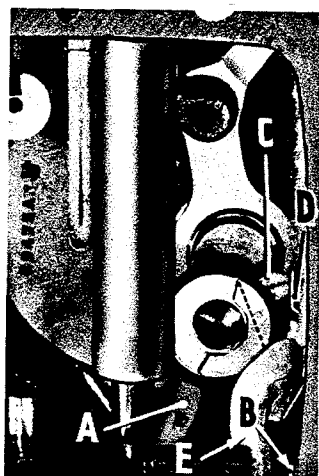

Fig. 27
2. Position bracket by means of screw (B, Fig. 27) so that wick (C) passes through the center of the slot in needle bar link (A). Wick (C) must contact the needle bearings. Proper wick contact with the needle bearings can be obtained by bending the wick support bracket (D) closer or farther away from the needle bar link as required. Be sure to secure the felt strip (E) to the upper needle bar bushing with spring clip 61454 B.